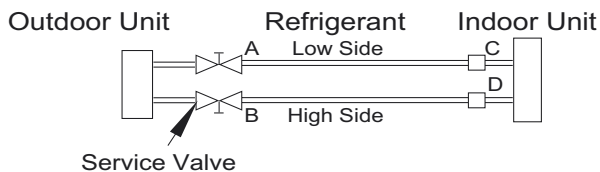

Fig. 23 —Service Valve
3. Fully open the low side of manifold gage (see Fig. 23).